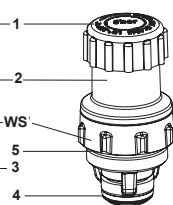

fig. 3b
The valve casing (3) is sealed with an O-Ring. Take care that both O-Rings (4 + 5) are mounted on the top replacement (see fig. 3b and 4b) and that the thread on the top piece as well as the sealing area adjacent to the O-ring on the valve casing (3) is shiny metal and clean.